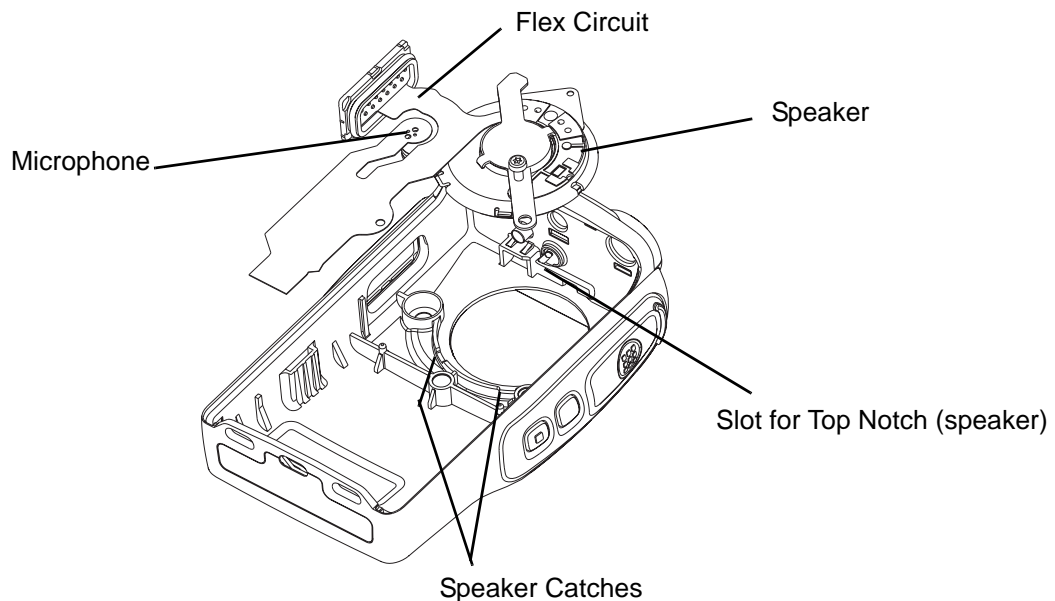

Figure 3-14 Removal Speaker and Microphone
2. Align the top notch in the speaker at the twelve o'clock position with the tab on the front cover. (See Figure 3-14.) Push down the speaker until the two bottom notches fit into the catches on the housing.